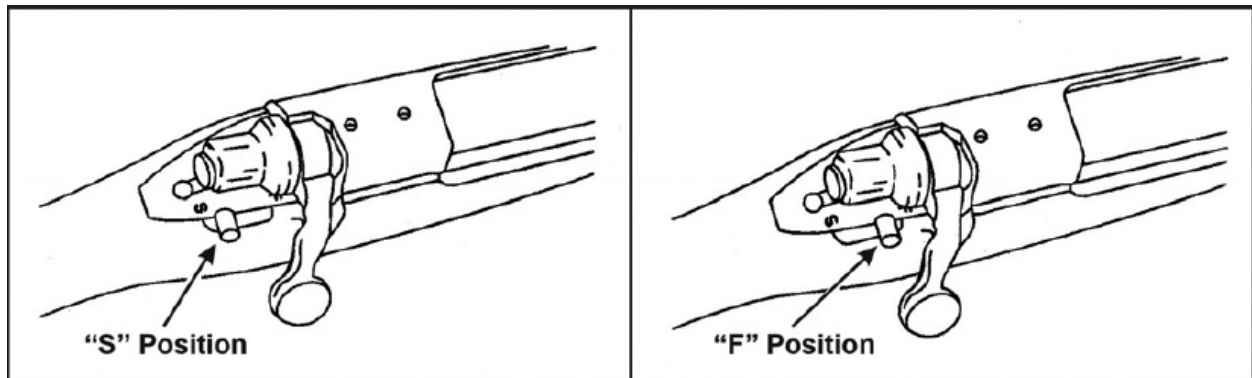

Figure 2-2. The M24 sniper weapon system in the SAFE and FIRE modes
- To engage the safety, place it in the “S” position (Figure 2-2).
- When the weapon is ready to be fired, place the safety in the “F” position (Figure 2-2).